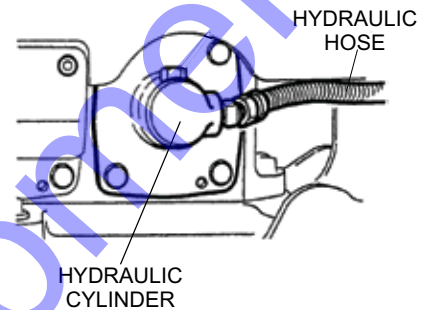

Figure 34. Hydraulic Oil Cylinder/Hose
1. Disconnect the hydraulic hose (Figure 34) connected to the hydraulic oil cylinder.